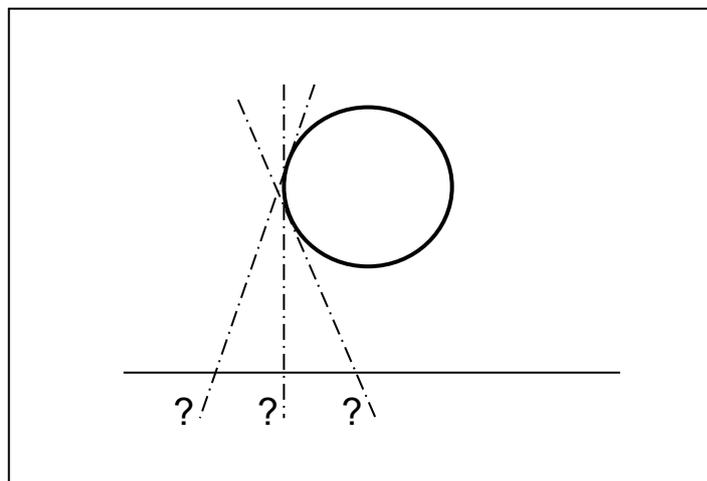

Figure 4
- NEVER use round objects to measure from, since exact positions of cables cannot be located as indicated in Figure 4: